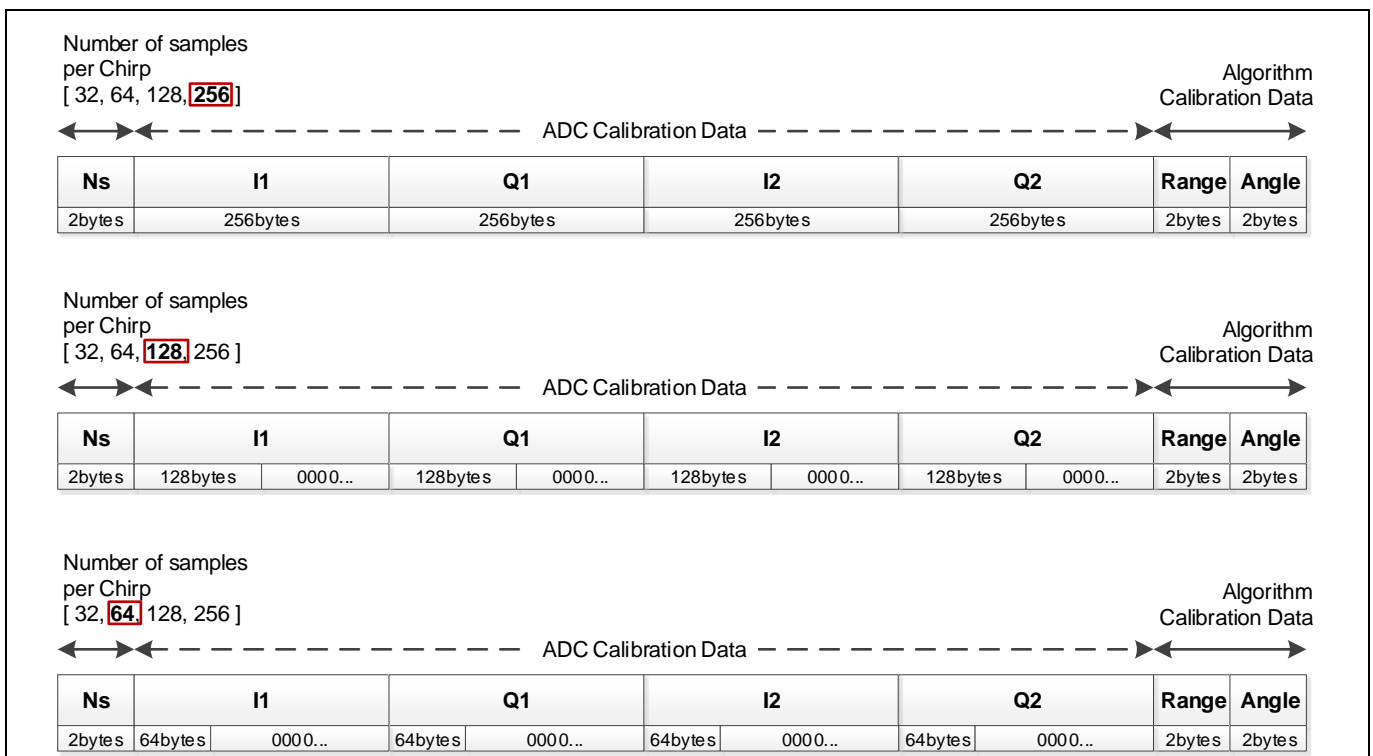

Figure 27 Calibration data format
- **ADC calibration data** – consists of raw ADC data for RX1 (I1 and Q1) and RX2 (I2 and Q2) calibration contents. ADC calibration is only applied for the first chirp. Each RX channel (I1, Q1, I2, Q2) requires 256 bytes as calibration data, independently of the used number of samples per chirp [32, 64, 128, 256]. For less than 256 bytes, the calibration data are completed with zeros, as shown in Figure 27.